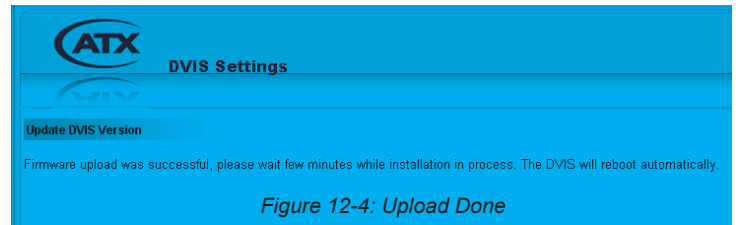

Figure 12-4: Upload Done
5. When file upload is complete the unit will present the 'Upload Done' page, shown in Figure 12-4.